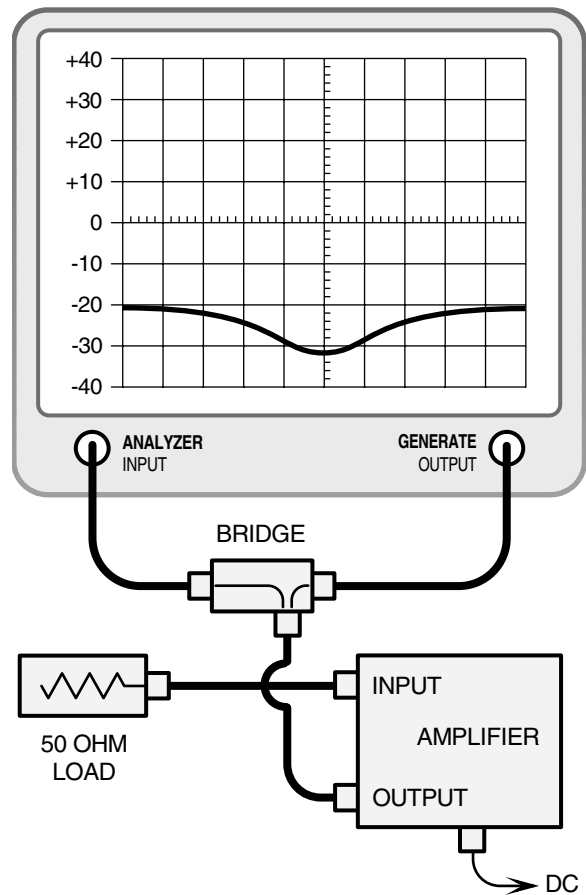

Figure 6: Measuring input return loss.
- 6) Connect the return loss bridge to the tracking generator as shown in figure 6 but do not connect it to the amplifier. Leave the test port on the bridge open.
- 8) Connect the bridge and load to the amplifier as shown in figure 6 and see if the input return loss is down -16 dB or more. If it is, skip to step 10.